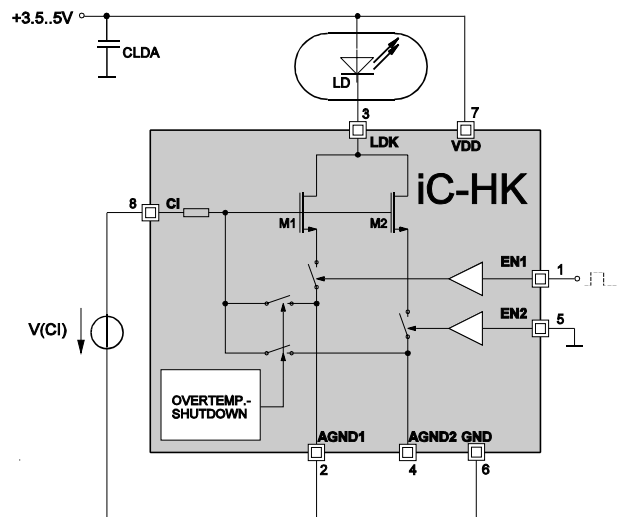
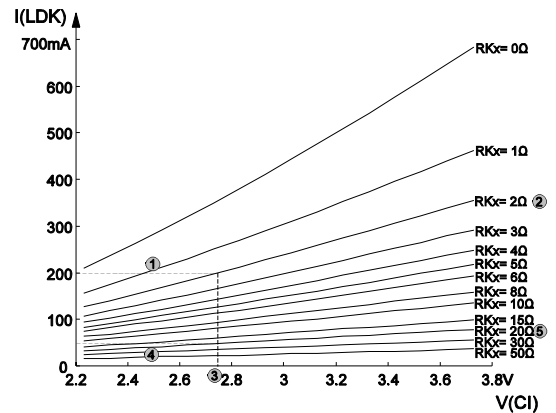

Fig. 3: Circuit with iC-HK for Example 1 - pulse current of 100mA
Fig. 4: Determining $V(CI)$ for Example 2 and 3
With the circuit shown in Figure 3 and a voltage of 1.75V at pin CI the laser current can be switched between typically 0mA and 100mA by applying an appropriate pulse pattern to EN1.
3. As shown in Figure 4 (cf. data sheet, Figure 3), an $RK2$ value is selected for $I(LDK) = 200\text{mA}$ and the corresponding voltage $V(CI)$ then determined - e.g. $RK2 = 2\Omega$ und $V(CI) = 2.75\text{V}$
4. Again as shown in Figure 4, the appropriate value of $RK1$ is determined for $I(LDK) = 50\text{mA}$ and $V(CI) = 2.75\text{V}$ as $RK1 = 20\Omega$
3. Similar to Example 2, here RK2 is chosen to 3 Ω and V(CI) to 3V for I(LDK) = 200mA
4. As shown in Figure 3 of the data sheet the corresponding value of RK1 is read off at ca. 9 Ω for I(LDK) = 100mA and V(CI) = 3V